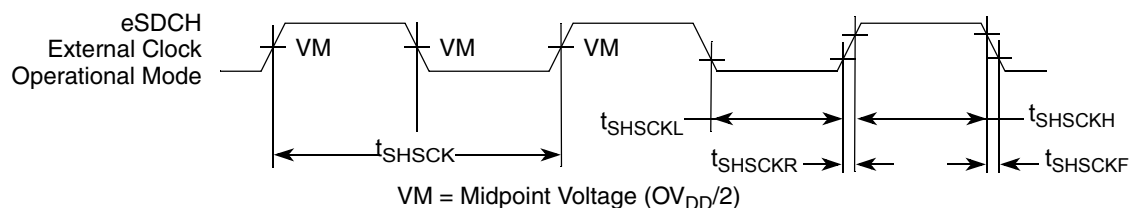
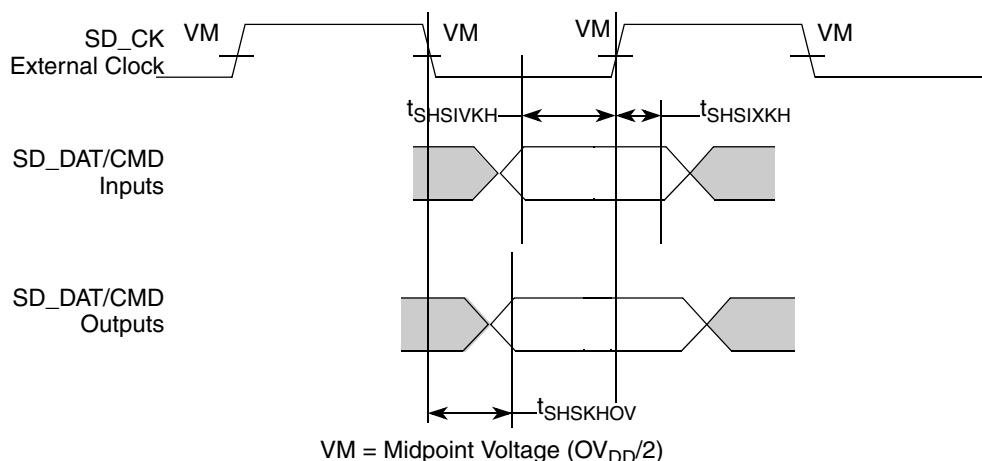

Figure 61. eSDHC Clock Input Timing Diagram
Figure 62. eSDHC Data and Command Input/Output Timing Diagram Referenced to Clock
2.16.2 eSDHC AC Timing SpecificationsThe following table provides the eSDHC AC timing specifications as defined in Figure 61 and Figure 62.**Table 69. eSDHC AC Timing Specifications**At recommended operating conditions with $OV_{DD} = 3.3\text{ V}$